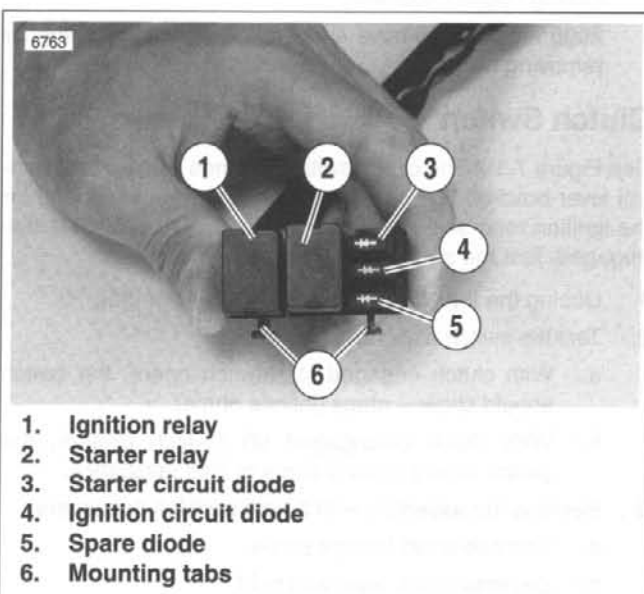

Figure 7-12. Ignition Relay and Diodes
1. See Figure 7-12. Remove seat and locate ignition relay (1) within relay/diode block.